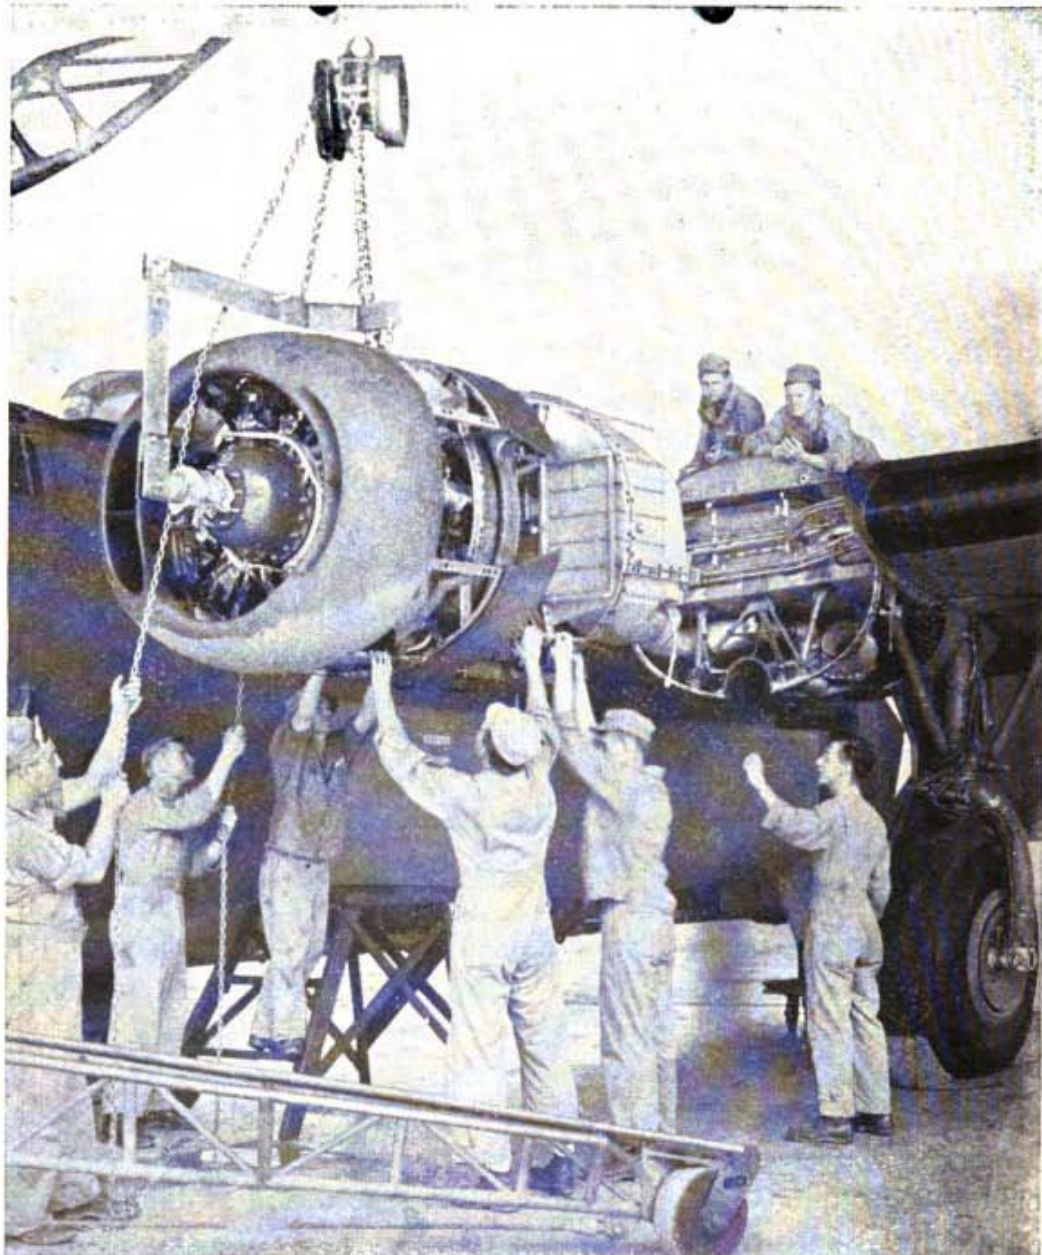

Figure 68. Engine change.
q. Instruments. (1) The repair of instruments is like the repair of watches—it requires the skill of a specialist. The best that a line mechanic can do is keep dust, moisture, and gases of any sort from entering the delicate mechanism and causing the instruments to malfunction.
(2) Examine all instruments and lines for security of mounting. All lines should be properly anchored and provided with the proper amount of flexibility. Check all connections for leaks. Inspect the dials and pointers for luminosity and be certain that the operation limits are correctly painted on each instrument glass.
17. ENGINE CHANGE INSPECTION. This inspection is made at the time the engine is removed from the airplane. (Fig. 68.) The expected time of operation, in flying hours, for each type and model of engine is specified in Technical Orders. Where failures have occurred or where